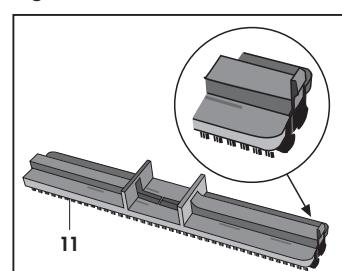

Fig. 14
- Bristled frame (11) for removing stubborn dirt from hard floors and surfaces (**Fig. 14**)